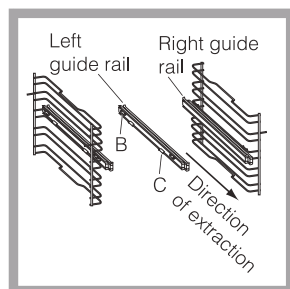

Figure 1.
- » Choose which shelf to use with the telescopic runner. Pay attention to the direction in which the runner is to be extracted, position joint 'B' and joint 'C' on the frame (see Fig.1).